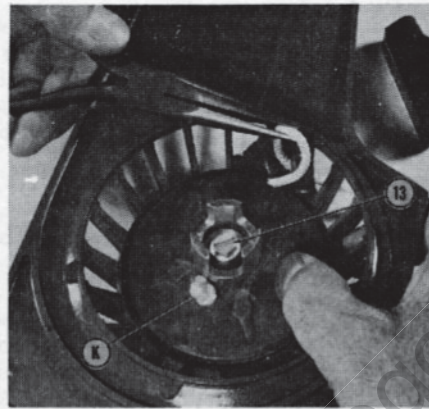

Fig. HL121—Pulling loop of starter rope past notch in rope pulley. Rope is retained by knot (K). Rope pulley retaining screw is (13).
REWIND STARTER. For exploded view of starter, refer to Fig. HL120 or HL120A. To disassemble starter, refer to Fig. HL121 and proceed as follows: If starter spring remains under tension, pull the starter rope out about two turns of pulley, hold pulley from turning and pull loop of rope out past notch in pulley. Allow the starter spring to completely unwind, then remove screw (13) and disassemble unit. Be careful when removing spring;
If necessary to install new rope, insert end through pulley and tie knot as shown at (K—Fig. HL121). Heat end of rope to secure knot, then insert other end through rope guide in fan housing
engages spring, then allow spring to rewind. Install pulley retaining washer and screw and tighten screw to minimum torque of 50 inch-pounds. Pull cord out about two feet so that notch in pulley is at rope insert in housing and hold pulley from turning (Fig. HL121). Pull up a loop of rope between notch and fan housing, then holding loop, turn pulley and rope three turns clockwise (winding spring). Pull out the rope so that it runs straight from pulley through insert in fan housing, then allow pulley to rewind slowly.